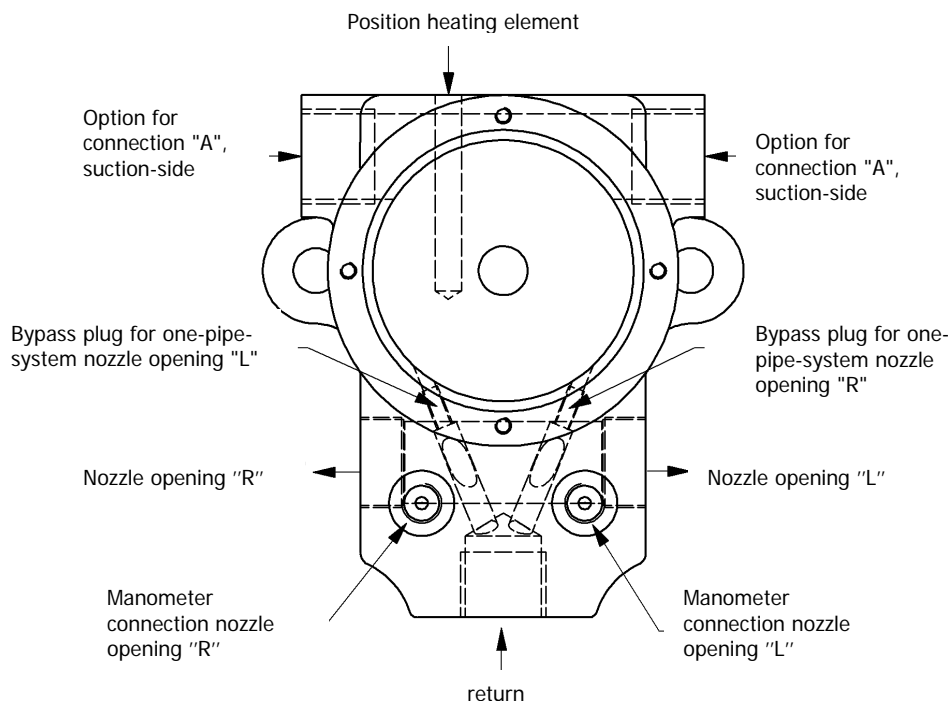

Fig. 3
- The suction connection (see figure 3) of the pump is filled with oil. Then the suction line is connected to thread connection "A".
- The nozzle line is connected to nozzle opening "R" or "L", depending on the casing build. (Fig.3)
- The pump has a bypass plug ex works and is thus defined for two-pipe-system (Fig.3). A return flow connection to the tank is required for two-pipe-system.
- Either of the two suction connections can be selected for the suction side (Fig.3). Where required, a manometer can be connected to the second suction connection to measure the suction pressure. Otherwise, the unused suction connection is closed off with a sealing ring and plug screw.